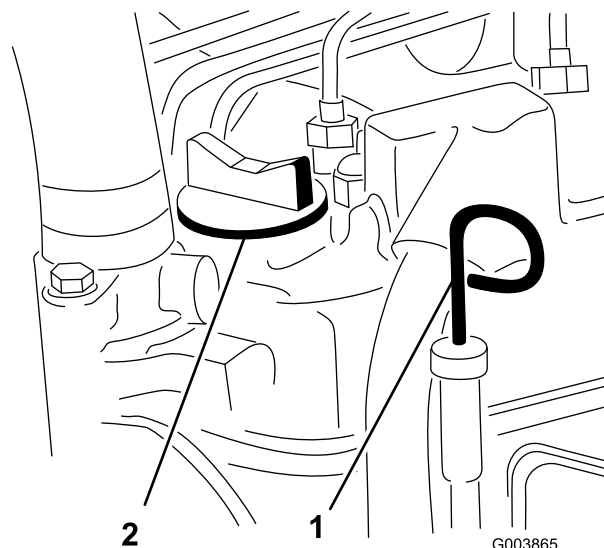
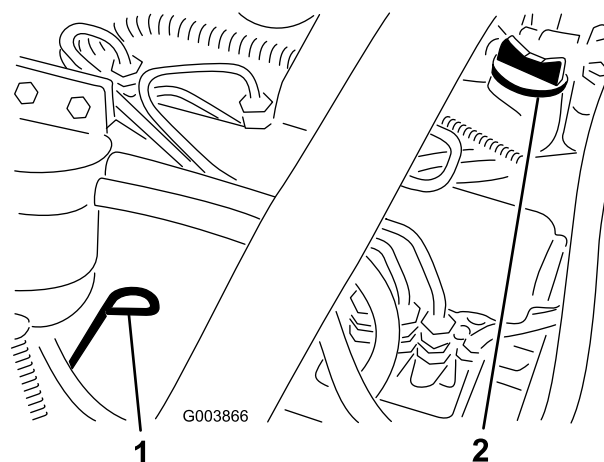

Figure 23
Figure 24
3. Remove the dipstick, wipe it clean, and install it (Reelmaster 5200—Figure 23, Reelmaster 5400—Figure 24).